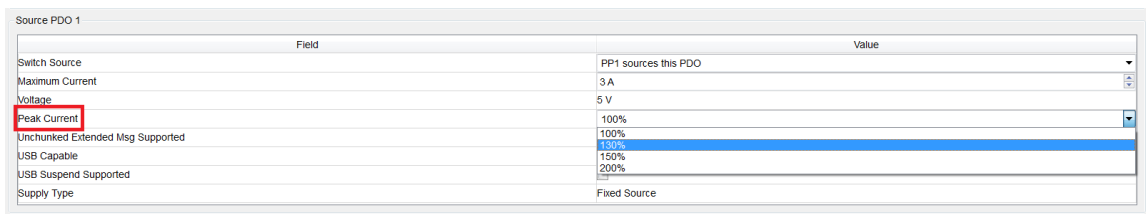

Figure 3. Peak Current Configuration Drop-down
- Click on the Peak Current drop-down box to configure the settings for the desired application (see Figure 3).